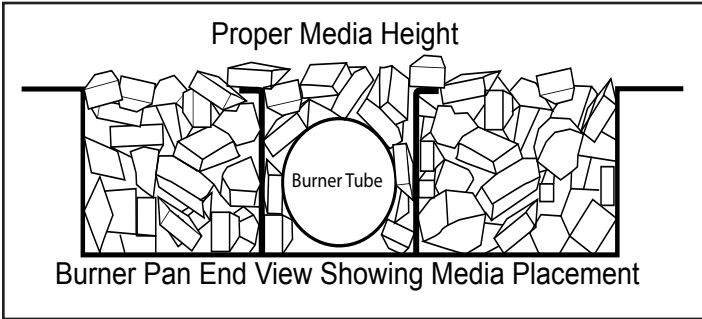

**Fig. 34** Installing media into the fireplace.
**Step 24:** Open the media box and install the glass media as shown is Figs. 34 - 36. Place media fireglass into the trough area first as shown in Fig. 35. Use the remaining media to fill the burner pan equally on both sides. Install only one layer over top of the ignition screen (Fig. 32), just enough to camouflage it.